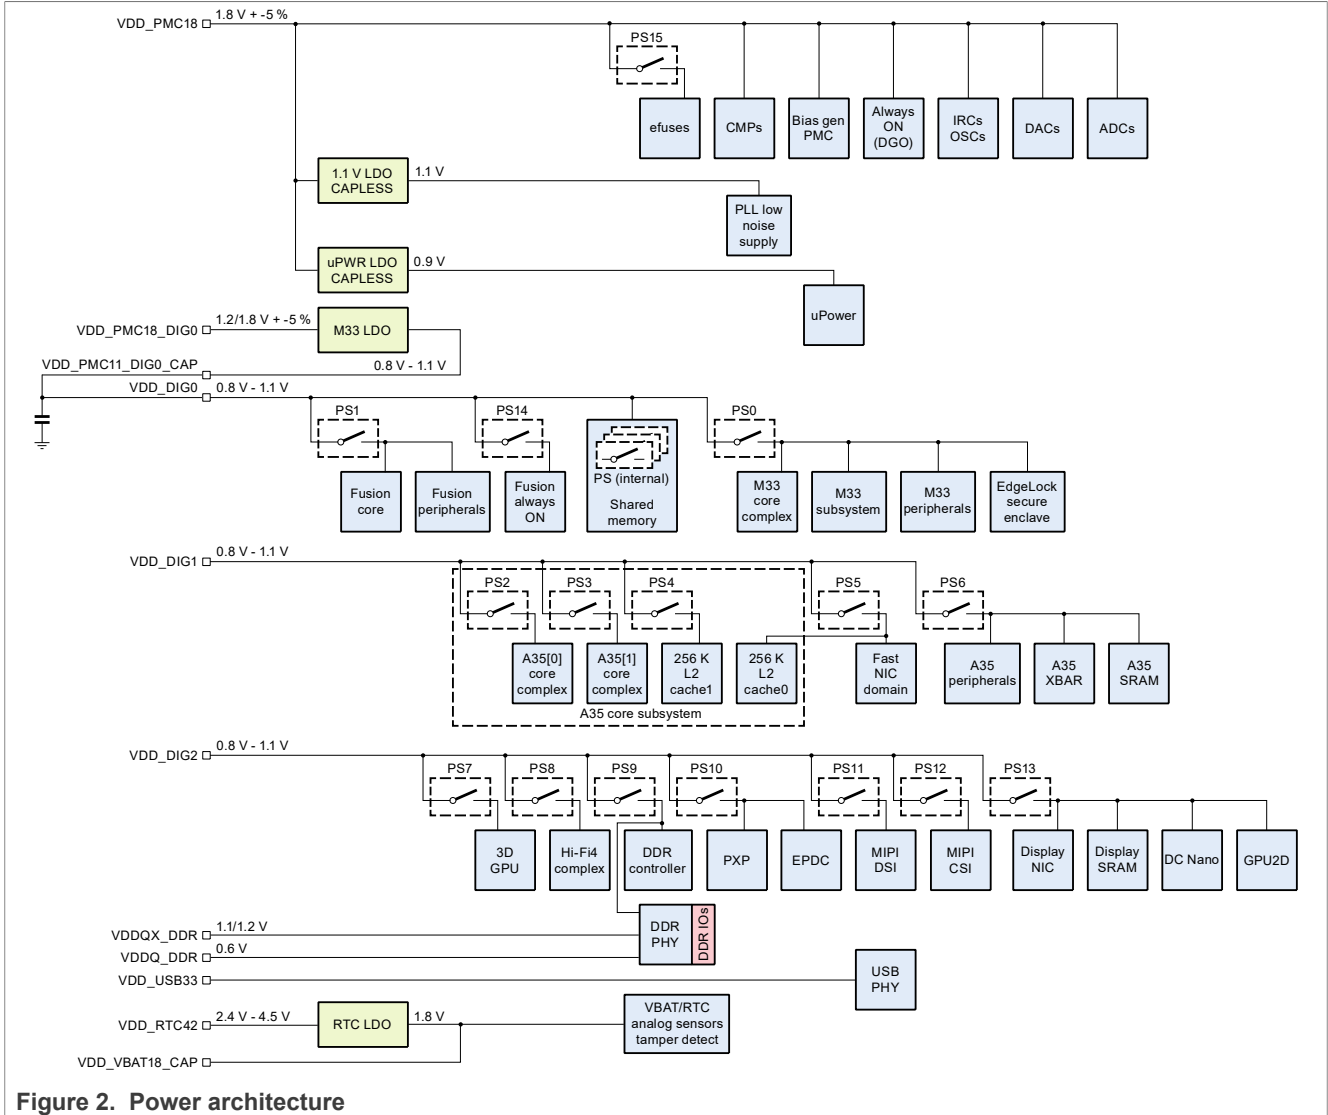

Figure 2. Power architecture
Different domains have separate power supplies (power rail). Figure 2 shows i.MX 8ULP power scheme. There are 18 x power switches (PS) for SoC internal IP modules. These modules can be turned on/off by software, through uPower FW API, for precise power control.